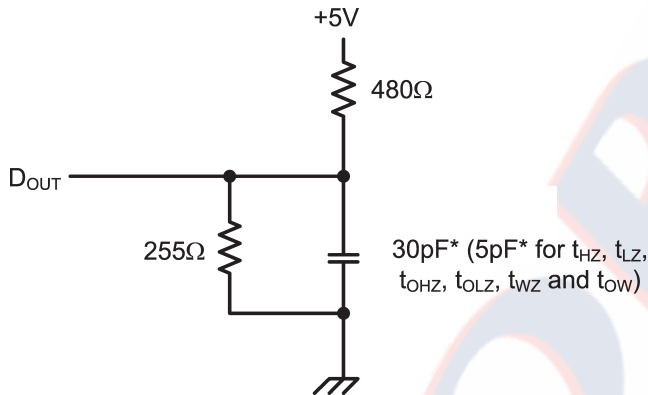

Figure 1. Output Load
- Transition is measured $\pm 200mV$ from steady state voltage prior to change, with loading as specified in Figure 1.
Output Load	See Figures 1 and 2